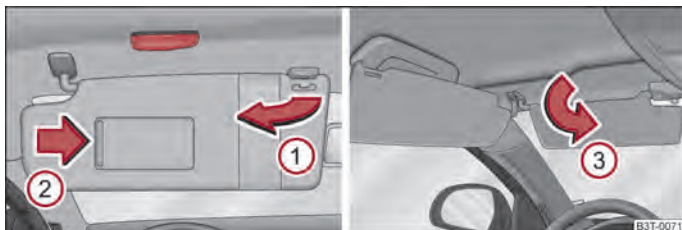

Fig. 48 Sun visor: Swivelling out - left/double sun visor: Swivelling back - right
You can pull the sun visor for the driver or front passenger out of the fixture and swivel it toward the door in the direction of the arrow ① ⇒ fig. 48.